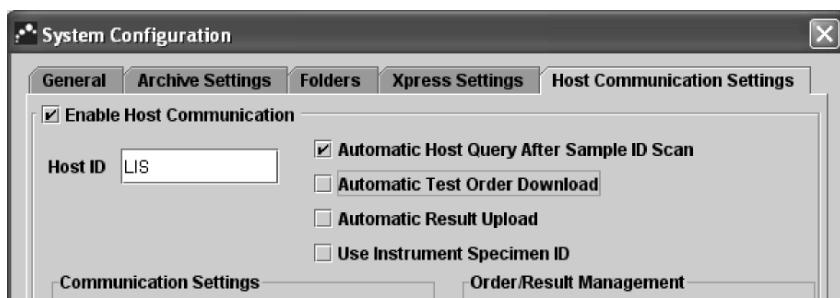

Figure 6-8. Host Query selected
1. In the **Host Communication Settings** window, click on the **Automatic Host Query After Sample ID Scan** checkbox to select and enable this function (Figure 6-8).